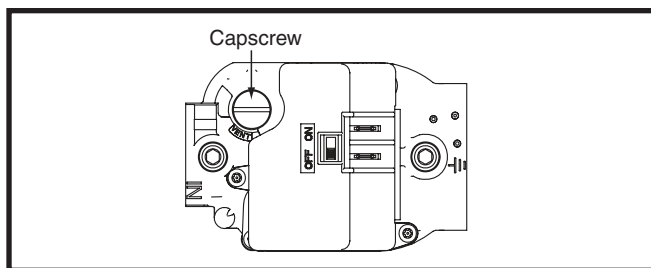

Figure 29. Regulator Capscrew
- b.) Remove the regulator capscrew (Figure 29) from the INLET side of the regulator.